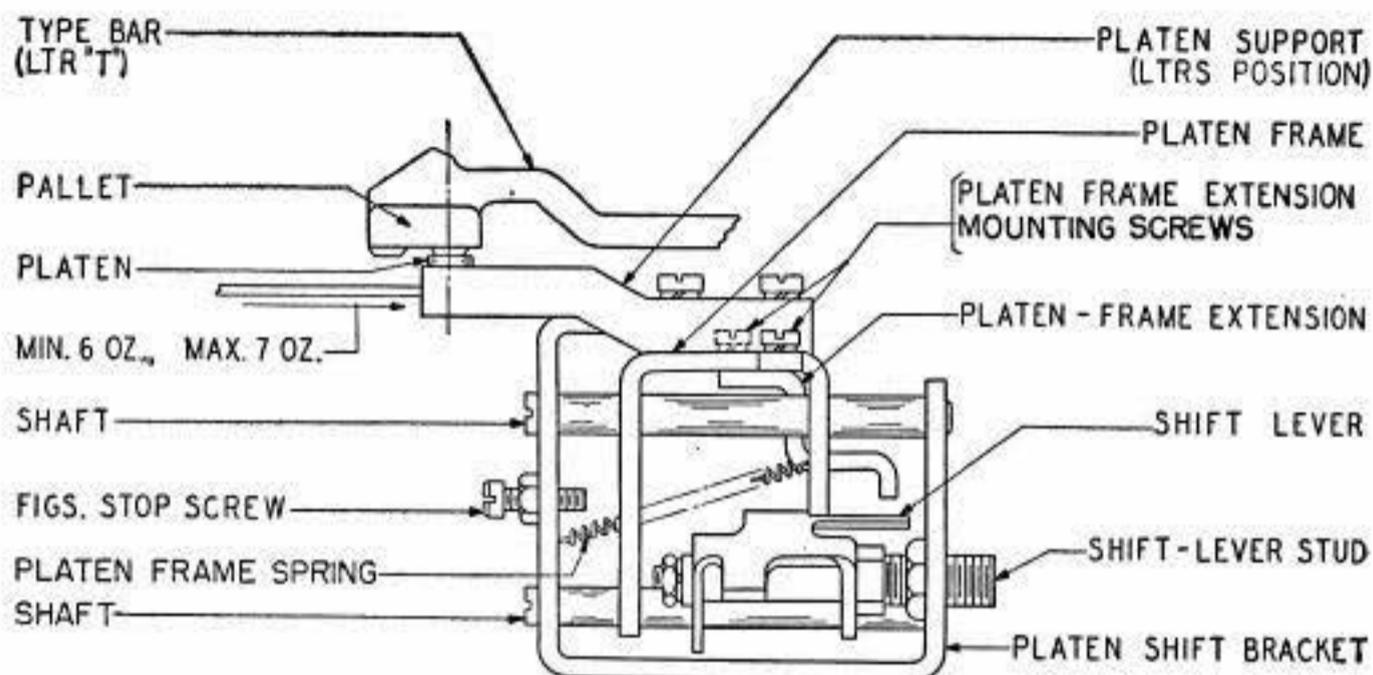

Fig. 29
2.43 **Shift Lever:** The letter T should print centrally on the platen, when the platen is latched in the LTRS (rear) position. **Fig. 29**
2.44 **Platen-Frame Spring:** It should require a push as indicated in Fig. 29 to just start the platen frame moving. The main shaft should be in its stop position and the platen in its latched (LTRS-rear) position. **Fig. 29**
(a) To adjust, loosen the platen-frame-extension mounting screws and reposition the extension by means of its elongated left mounting hole. Tighten the screws. **Fig. 29**